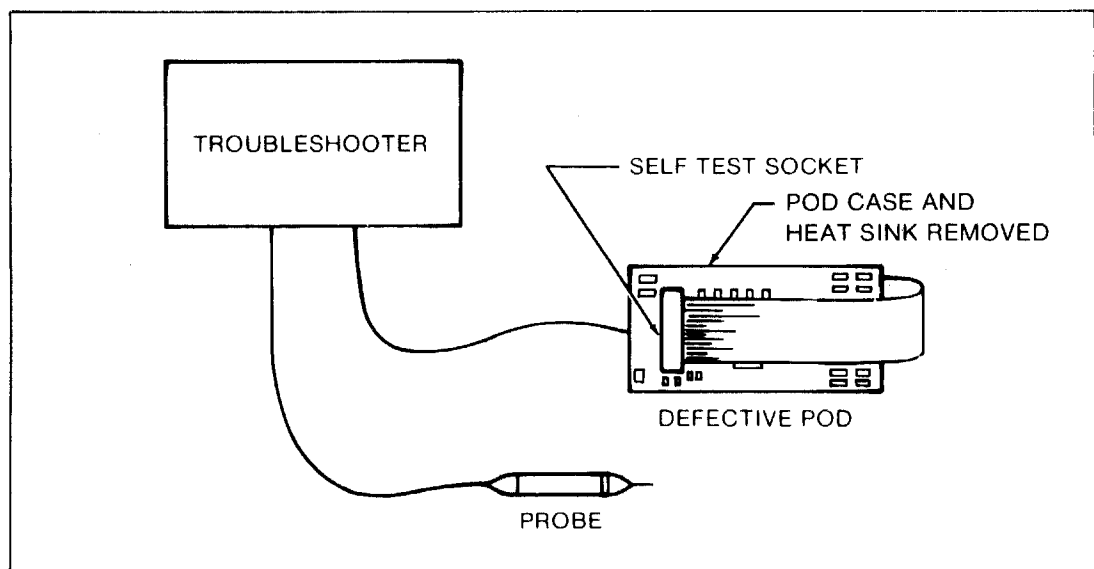

Figure 6-1. Troubleshooting a Defective Pod
3. Connect the Pod to the Troubleshooter, and insert the ribbon cable plug into the self test socket as shown in Figure 6-1. Rotate the locking knob (next to pin 1 of the Self Test Socket) to close the Self Test socket contacts.